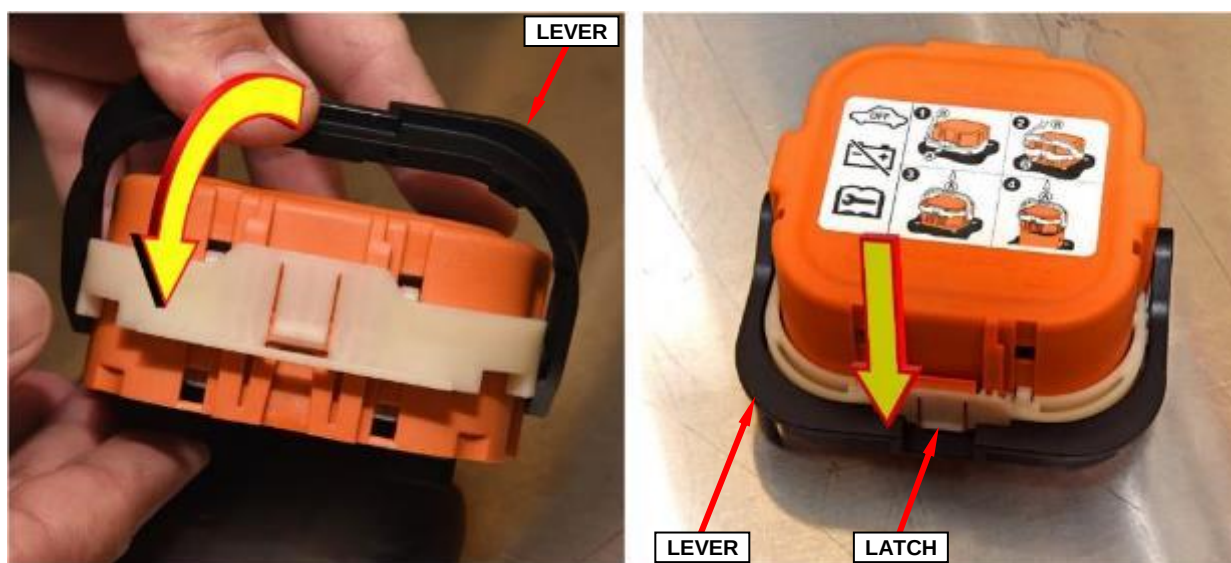

Figure 55 – High-Voltage Manual Service Disconnect Latch Engagement
33. Rotate the lever downward while maintaining a slight downward force on the high-voltage manual service disconnect. The lever will engage the receptacle and draw the high-voltage manual service disconnect down onto the receptacle as the lever is rotated (Figure 55).
34. Rotate the lever downward until it is fully engaged and locked by the lever release latch. An audible “click” will be heard as the lever latches into position (Figure 55).